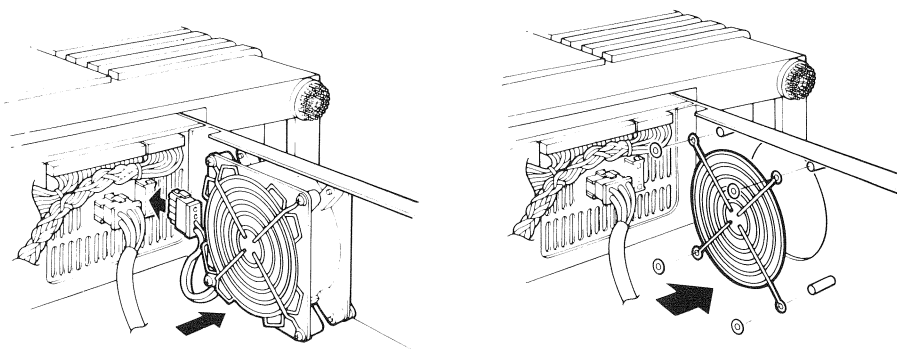

Figure 8-30 Replacement Fan Installation
2. Relocate the four screws and place the fan guard on the screws. Make sure the cross members of the fan guard face the inside of the unit (Figure 8-30).